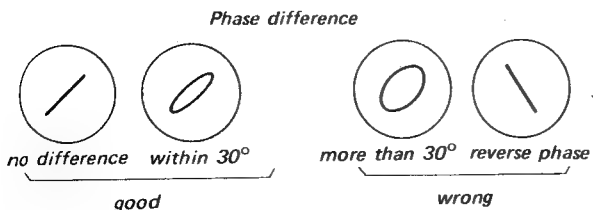

Fig. 12-17 Lissajous figures
- (1) Make the p.b. head phase check.
- (2) Thread a blank tape.
- (3) Deliver a 1.5 kHz signal of -10 dB (0.24V) into the AUX INPUT jack and record the signal on the blank tape.
- (4) Be sure to obtain the Lissajous figure as shown in Fig. 12-17.